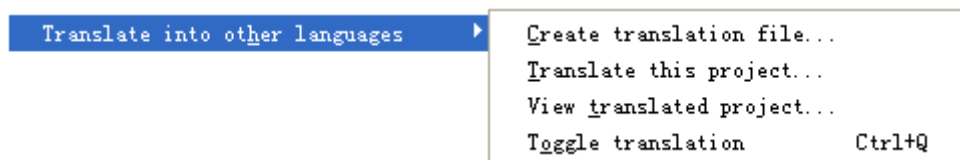

Figure 2-3-7 Language Dialog
- **Project [P]/Translate into other languages [H]:** Translate the current project into other languages, as shown in figure 2-3-7.